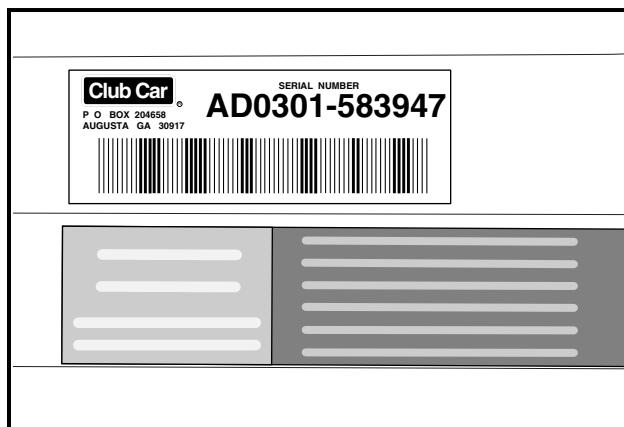

Figure 3-1
The serial number of each vehicle is printed on a bar code decal mounted on the frame directly above the accelerator pedal (Example: AD0301-583947) (**Figure 3-1, Page 3-1**). There is also a second serial number decal mounted on the front body frame behind the dash panel. The dashboard must be removed to view this number. **See following NOTE.**
**NOTE:** Have the vehicle serial number available when ordering parts or making inquiries (**Figure 3-1, Page 3-1**).